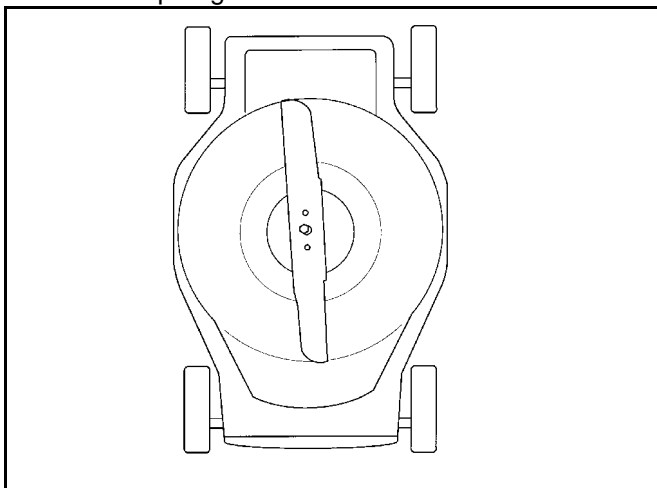

Figure 27
- Clean the underside of the mower housing. Be particularly careful to keep the front cavity clear of all debris (Figure 27). Remove dirt and grass clippings with a hard wood scraper. Avoid burrs and sharp edges.